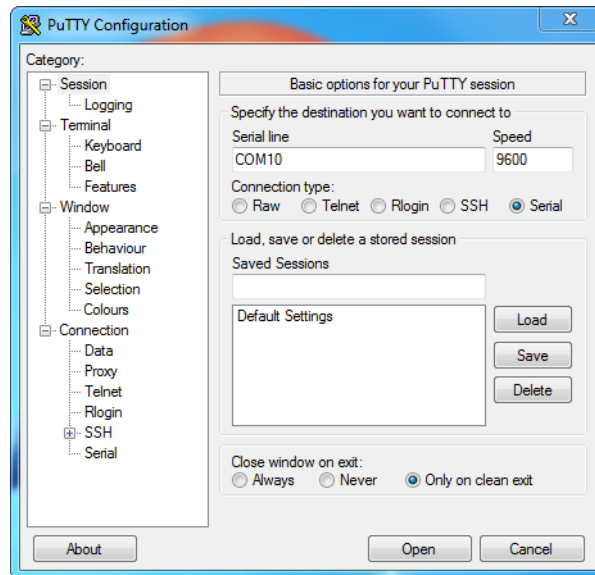

Figure 37. PuTTY Configuration
2. Select Connection type: *Serial* (see Figure 37).